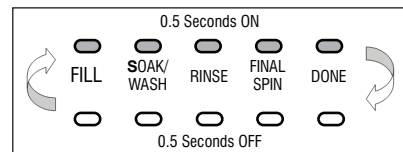

Figure 2 - Status LEDs flashing ON and OFF
- Toggle cycle selector knob until the status LEDs flash ON and OFF (see figure 2, page 2).